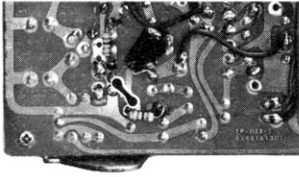

Fig. 33
- 8) Short the pattern and release the auto-stop operation. (Refer to Fig. 33)